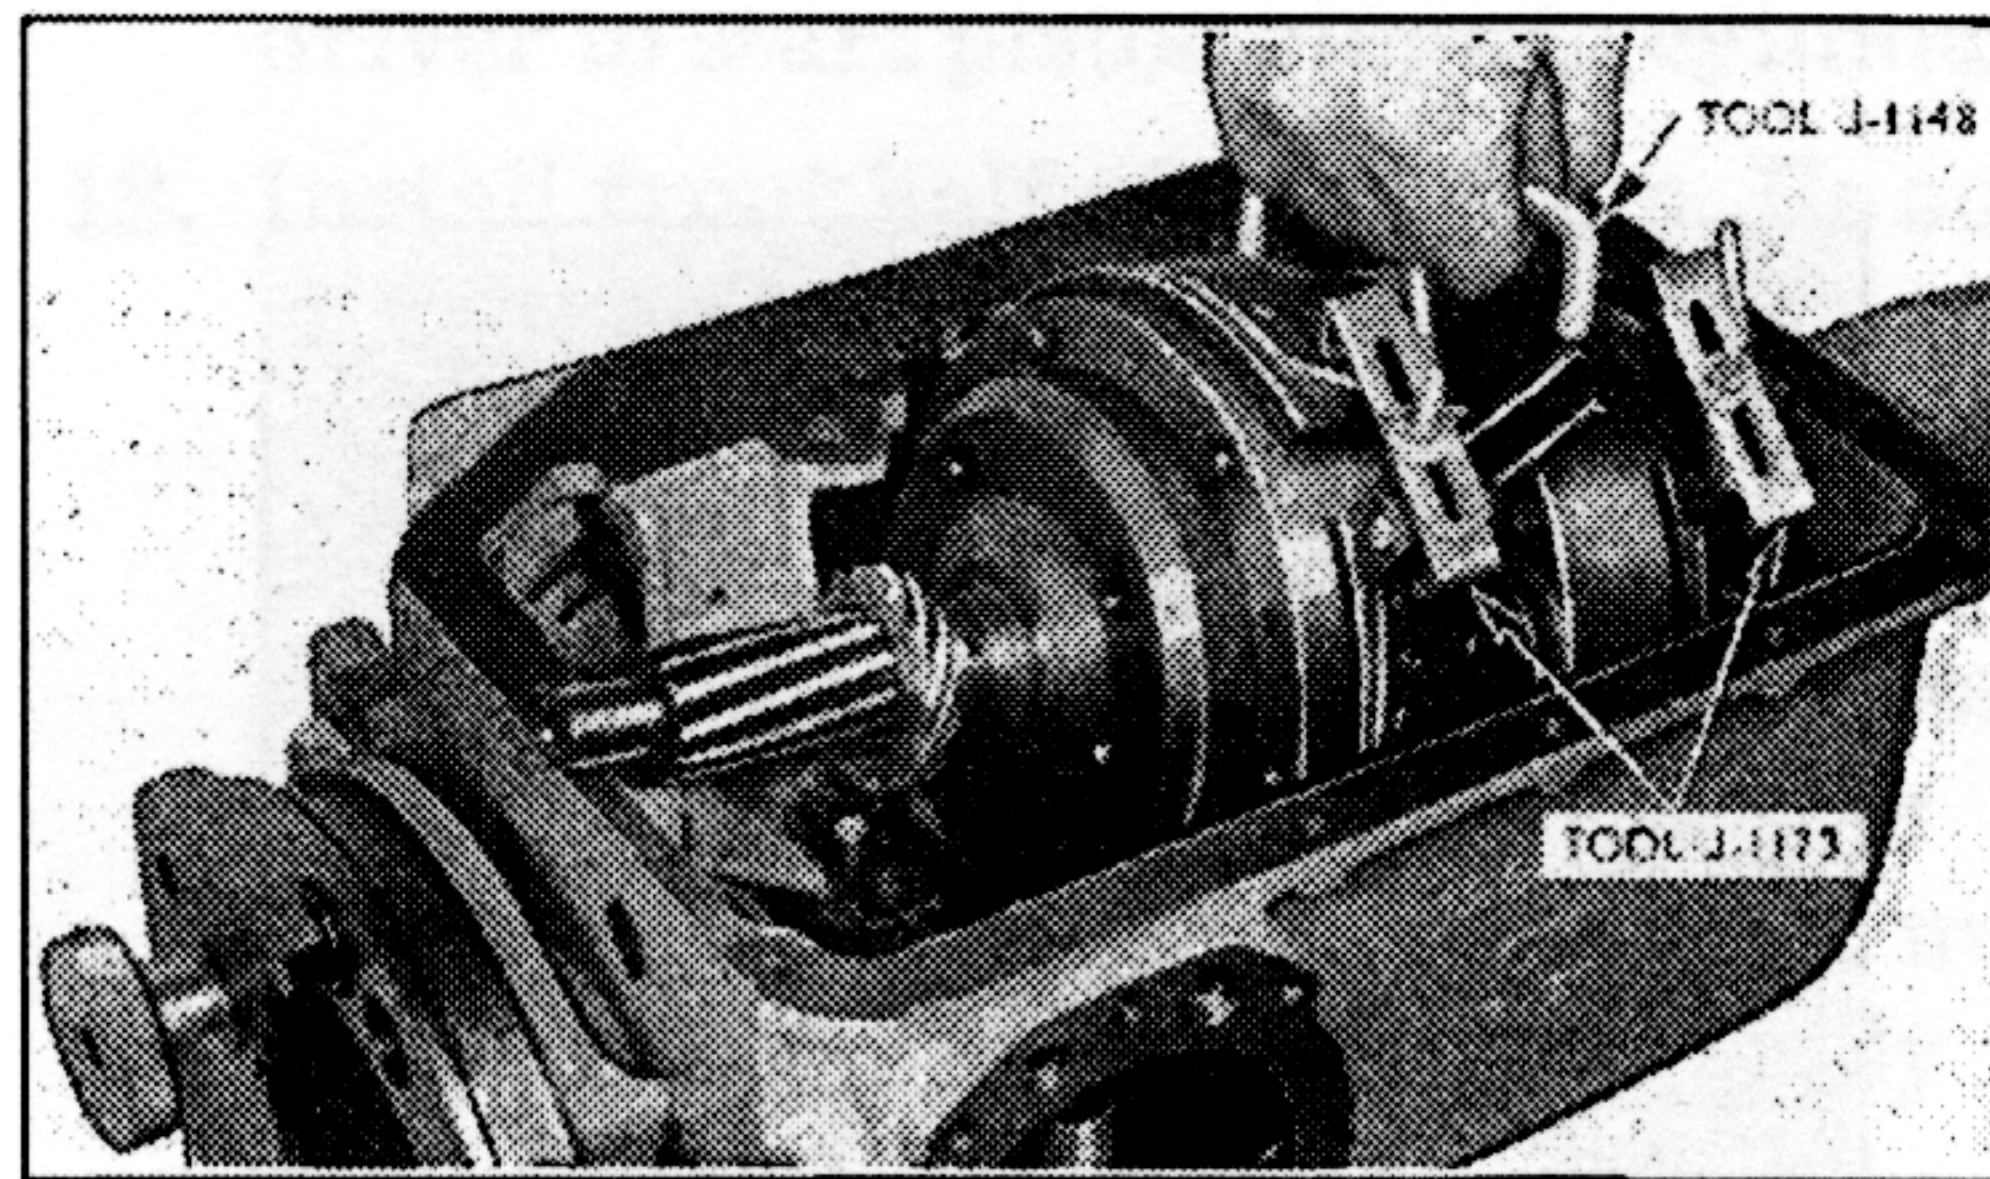

Fig. 25. Planetary Units Removal
8. Rotate servo bands with ends toward bottom of transmission and clamp ends with a modified brake clamp, tool J-1173. See Fig. 25.
weight, making sure that front shaft is not pulled out of position. See Fig. 25.